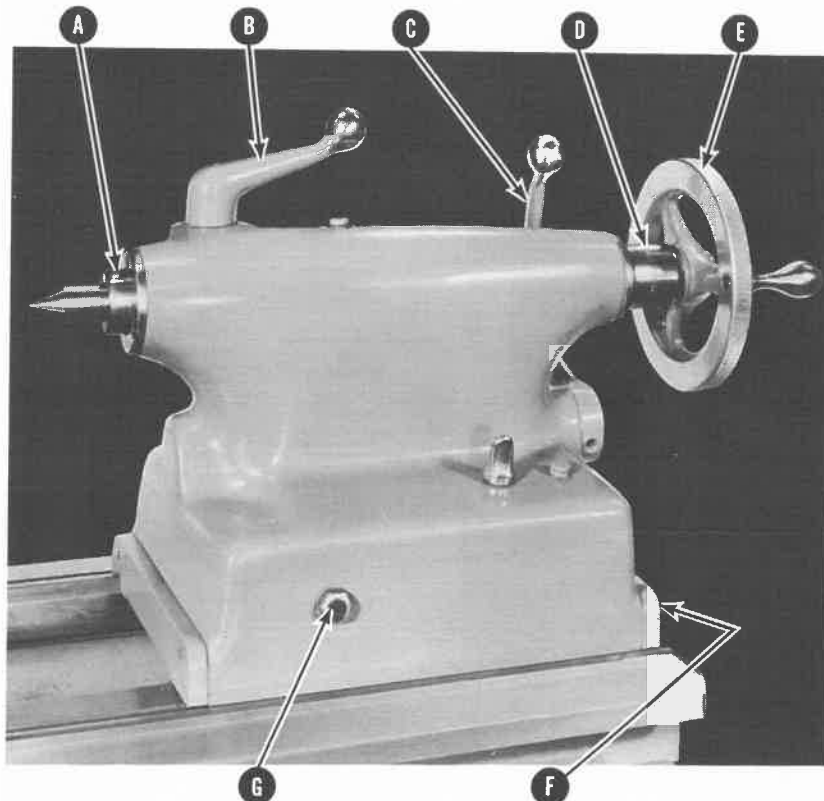

FIGURE 8. Tailstock
Tailstock hand wheel (E) Figure 8 is used to traverse or feed spindle (A) in or out.
<p>4. Tailstock Eccentric Clamp Lever</p>	<p>An upper and lower lock nut, at point (F) Figure 8 beneath the tailstock, adjusts the clamp lever. Clockwise rotation of the nuts tightens the clamp.</p>